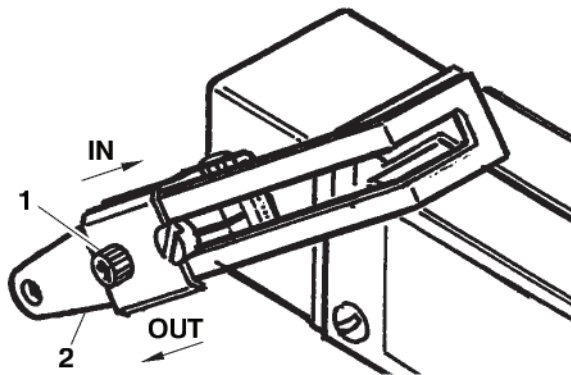

Figure 7-14
5. If the lower flap travel does not fall into the lower limits, loosen setscrew "B" (Figure 7-14,1) on the actuator arm (Figure 7-14,2) slightly.